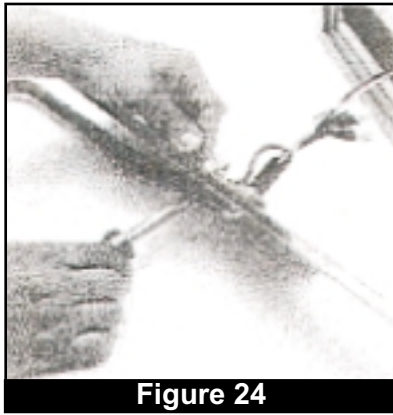

Figure 24
3. Free the green ground wire by grasping the nut with fingers or pliers (inside the back panel of module) and remove screw from the outside surface of the panel with a medium (6") phillips screwdriver. (Fig. 24)